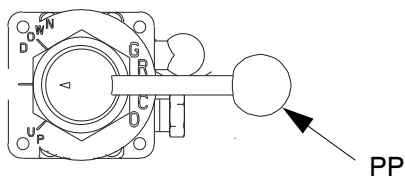
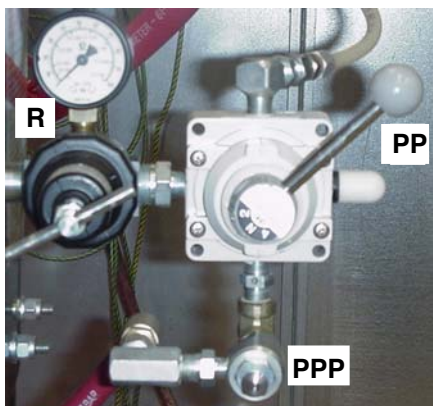

FIG. 25
FIG. 26
2. With the ram lever (PP) in the neutral position (FIG. 25), adjust the ram regulator (R-FIG. 26) to 0 psi.
3. Place the ram lever (PP) in the UP position, FIG. 26.